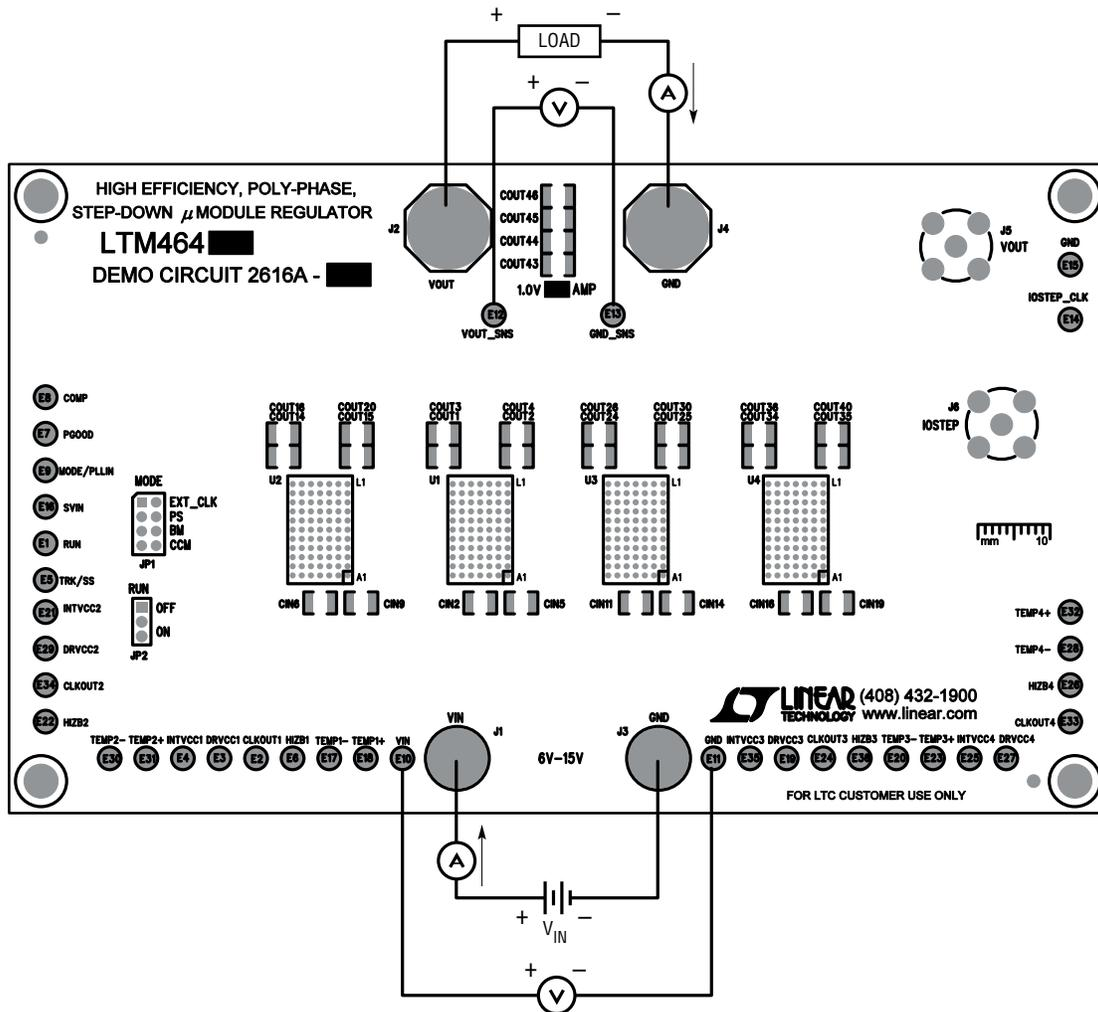

Figure 1. Measurement Setup of DC2616A-A
Demonstration circuit DC2616A-A is an easy way to evaluate the performance of polyphase operation of the LTM4645EY. Due to the high input/output current, the user should select the proper input supply/load/cable which can sustain the full load operation. Please refer to Figure 1 for proper measurement equipment setup and follow the procedure below:
2. With power off, connect the input power supply, load and meters as shown in Figure 1. Preset the load to 0A and V_{IN} supply to 12V.